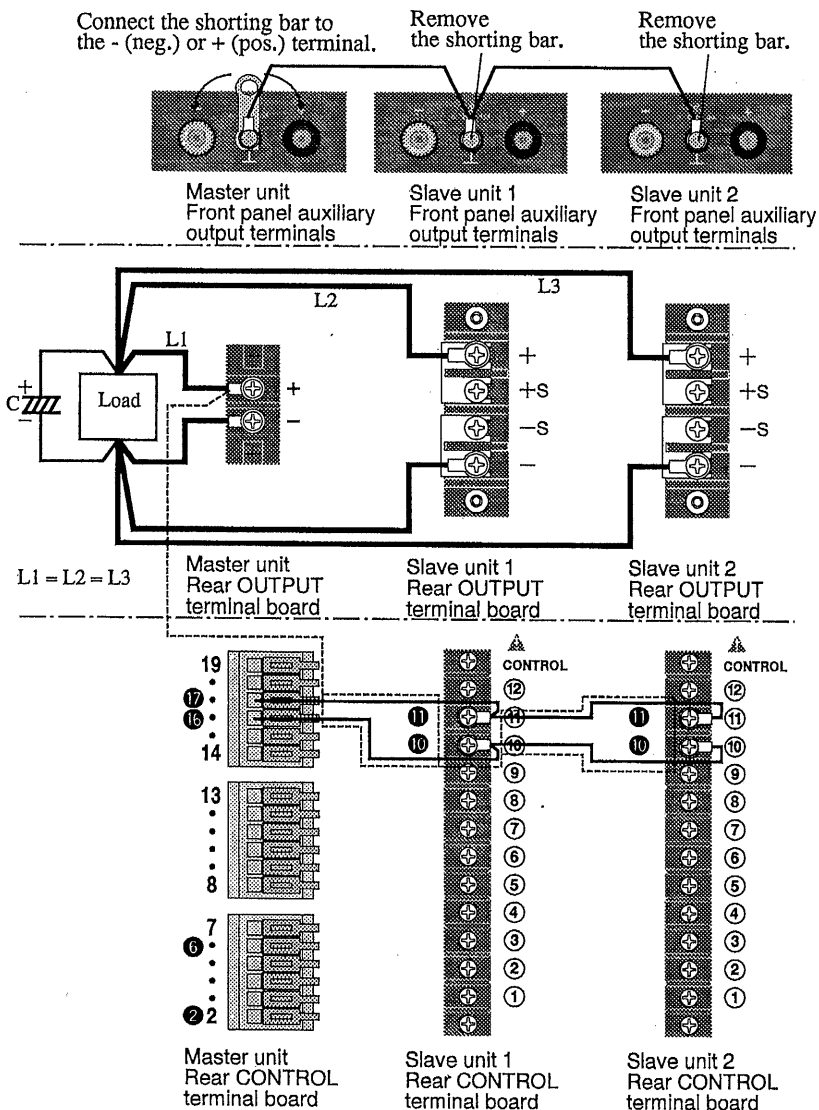

Fig. 3-12C Connection for master-slave-control parallel operation
To combine the PAN-A and PAN series, see Fig. 3-12C.
- When carrying out master-slave-control parallel operation with the PAN16-50A and PAN16-50 combined, refer to Fig. 3-12C for connection of the CONTROL terminal board.